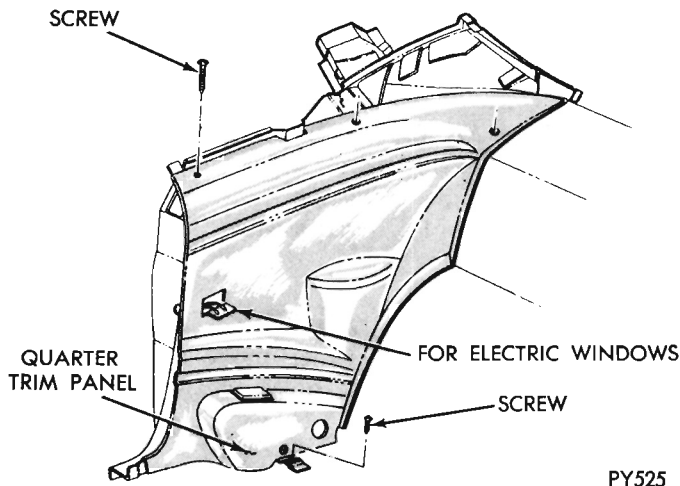

Fig. 34 - Quarter Trim Panel-Hardtop
**QUARTER TRIM PANEL INSTALLATION (Fig. 34)**
- (1) Position quarter trim panel, align holes to quarter inner panel.
- (2) Secure top with screws.
- (3) Secure bottom to floor pan with screw.